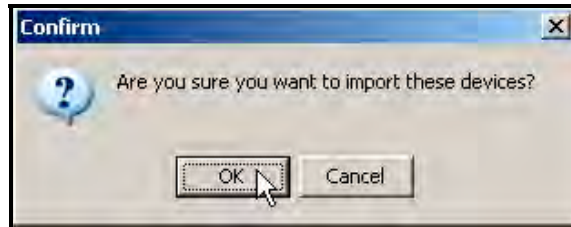

Figure 6-6. Confirm Import Dialog.
Step 6. Select the desired TS-3000i clock(s), and click on the  button to import into the ATVS software. The dialog “Are you sure” will appear (see *Figure 6-6*). Click the **OK** button to perform the operation. The operational status will appear in the display window to show that the selected clock(s) have been imported.